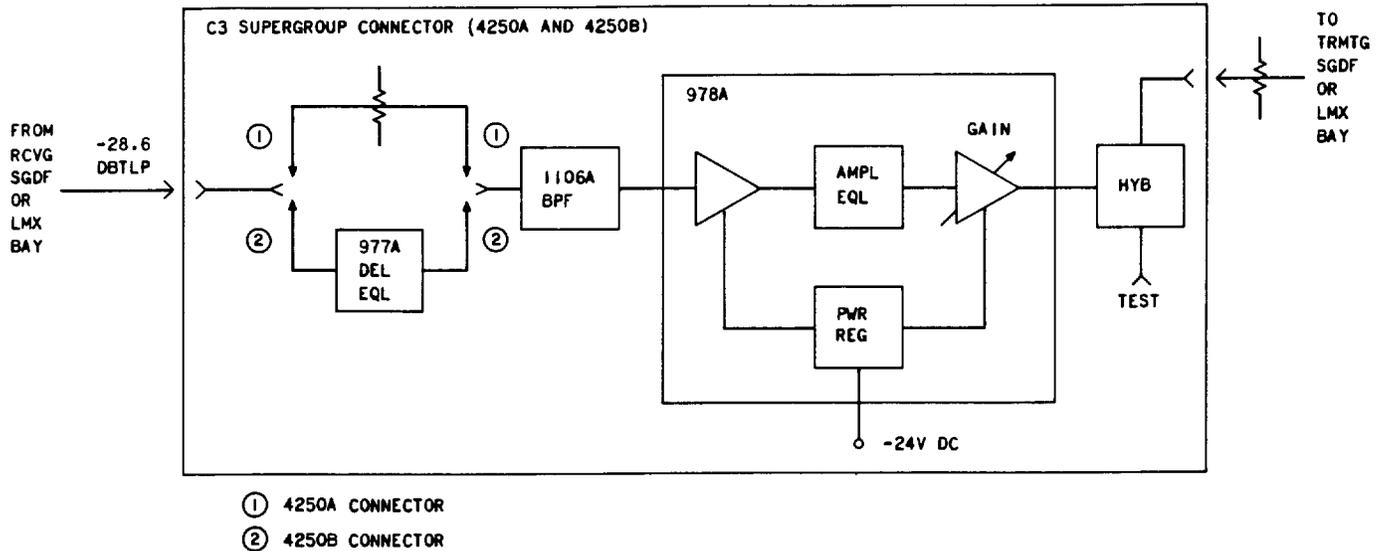

Fig. 2—C3 Supergroup Connector, Simplified Diagram
2.01 The two configurations of the C3 supergroup connector are shown in simplified schematic form in Fig. 2. The 4250A configuration consists of a pad, a bandpass filter (which includes 308- and 556-kHz blocking sections), a gain and amplitude equalization circuit, and a hybrid network. The 4250B connector has a delay equalizer instead of the pad, but otherwise is identical.
2.05 The power regulator (see Fig. 2) included in the C3 plug-in unit and a passive filter in the associated bay fuse panel are interdependent. Together, they provide the battery voltage, regulation, and filtering required by the connector amplifier.
2.07 The trunk adjust attenuator (see Fig. 2) builds out the transmitting cable loss to a standard value. This enables a specific transmission level at the C3 test jack.